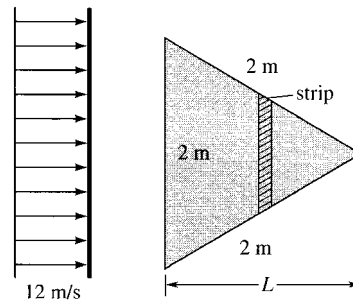

Fig. P7.34
**7.34** A thin equilateral-triangle plate is immersed parallel to a 12 m/s stream of water 20°C, as in Fig. P7.34. Assuming  $\text{Re}_{tr} = 5 \times 10^5$ , estimate the drag of this plate.